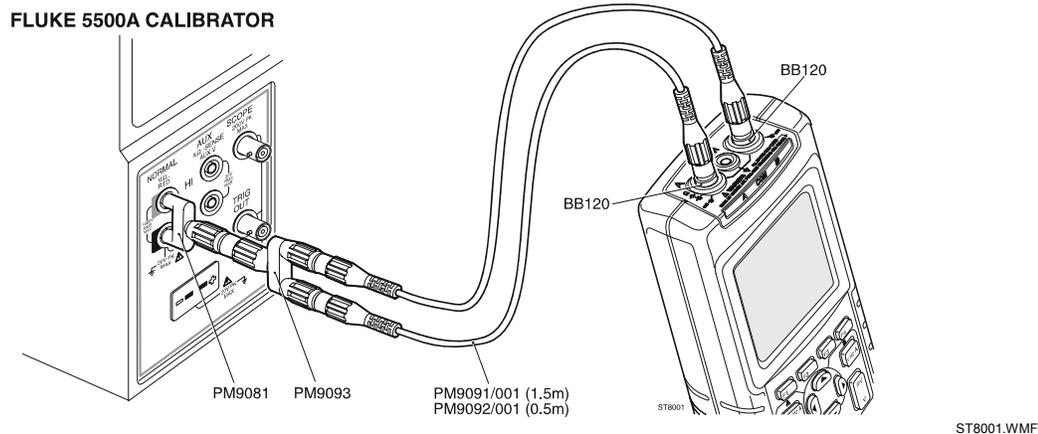

Figure 3-5. Test Tool Input A-B to 5500A Normal Output
1. Connect the test tool to the 5500A as shown in Figure 3-5.
1. Connect the test tool to the 5500A as for the previous test (see Figure 3-5).